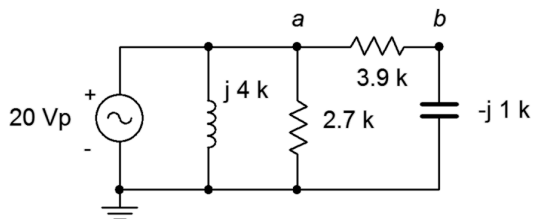

Figure 4.11
15. For the circuit of Figure 4.11, determine the source current and the current through each of the four components.
16. For the circuit of Figure 4.11, determine voltages v_{ab} and v_b .